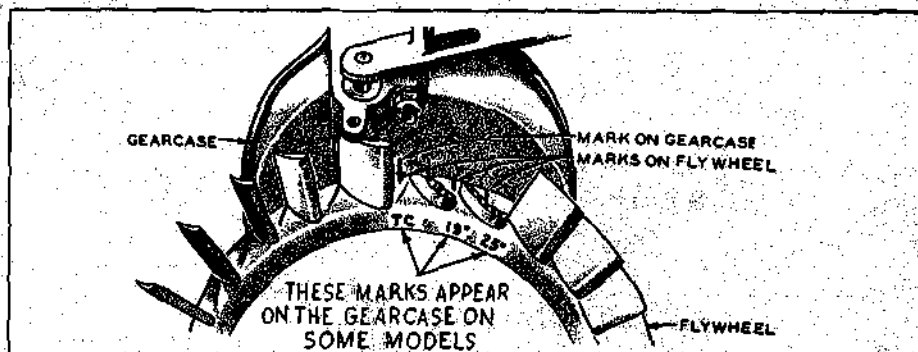

FIG. 40—IGNITION TIMING MARKS
2. Crank the engine over slowly by hand in the direction of crankshaft rotation until the "TC" mark on the flywheel and the mark on the gear cover are exactly in line. See Fig. 40.